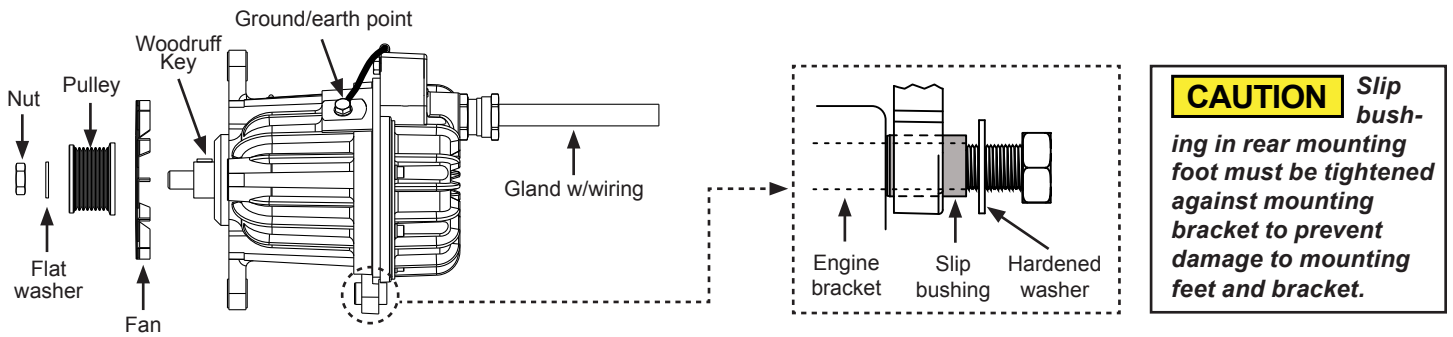

Figure 3: C192/C193 Installation
- b. Align fan keyway with key on shaft and fully seat fan on drive end (DE) bearing. See Figure 3 on page 2.
CAUTION Slip bushing in rear mounting foot must be tightened against mounting bracket to prevent damage to mounting feet and bracket. See Figure 3 detail drawing on page 2.
3. Ensure alternator is suitably grounded/earthed at point referenced in Figure 3 on page 2. Torque ground screw to 15 Nm/132 lb. in.